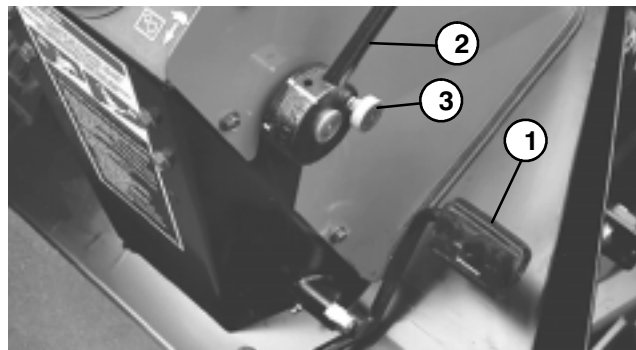

Figure 17
Traction Pedal (Fig. 17) – Controls forward and reverse operation. Depress top of pedal to move forward and bottom to move backward. Ground speed depends on how far pedal is depressed. For no load, maximum ground speed, fully depress pedal while throttle is in FAST. For maximum power under load or when going uphill, keep engine rpm high by having throttle in FAST and traction pedal partially engaged. If engine rpm begins to decrease due to load, gradually reduce traction pedal pressure until engine speed is increased.
Axle Shift Lever (Fig.17) – Located on right side of console, lever selects front drive mode. Pull out lockout knob, move lever rearward for mowing operation and forward for transport operation, then release knob to lock selection. Lever must be in LO position to mow. Middle position (N) is for towing.